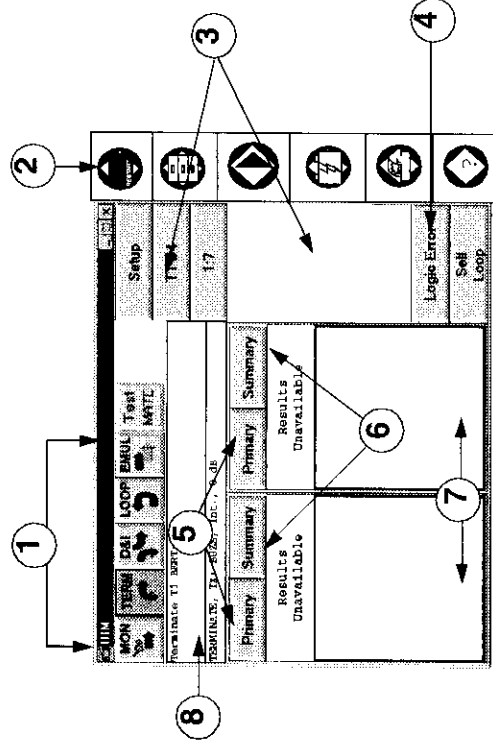
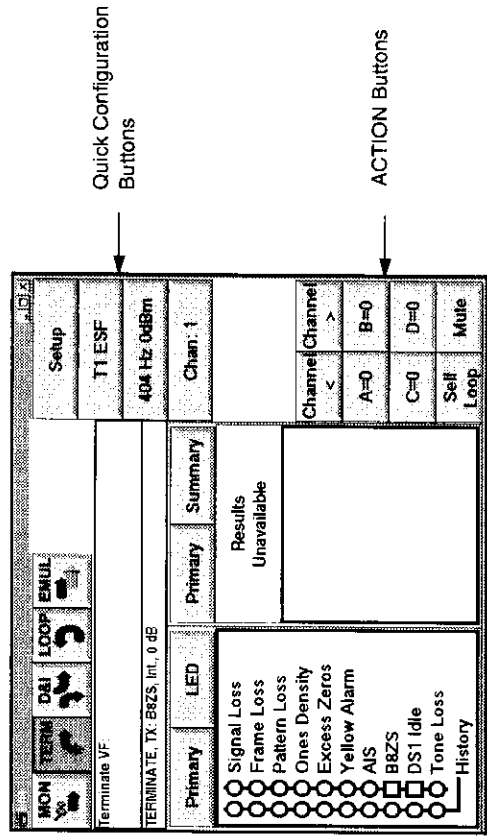

Figure 2-1. Main Screen
Figure 2-3. Sample Configuration/ACTION Button Usage
When you activate the T-BERD 2209, it displays the main screen (see Figure 2-1). The main screen is used to provide setup and configuration data and to display test-specific action buttons.
The Main Screen is divided into eight areas, as shown in Figure 2-1. Each area has a function, as described in the following paragraphs.
3. **Quick Configuration Softkeys** — These multiple configuration buttons appear based upon the type of test initiated. The **Setup** button allows you to change configurations. Figure 2-3 depicts real-test usage. Refer to Section 2.2 for information on how these buttons apply to the Property Sheets.
4. **ACTION Softkeys** — These action buttons are designed to take specific action during a test to initiate and measure the test (see Figure 2-1 and Figure 2-3).
5. **Results GROUP Display** — The first button in this dual-results display depicts a drop-down list of the current test results, and lets you choose the *source* of results. Select Primary or Secondary receivers by choosing **Primary** or **Secondary** (see Figure 2-1 and Figure 2-4).
6. **Results CATEGORY Display** — The second button in this dual-feature display offers a drop-down list allowing you to choose test results in numerous *categories*. Results appear based on the application and test selections (see Figure 2-1 and Figure 2-4).
7. **Dual Test Results Display** — This area (see Figure 2-1) displays two test results windows associated with the current test application. Each window has a button for selecting the Result GROUP, a button for selecting the Result CATEGORY, a Result VALUE display window, and a Result LIST box. Figure 2-5 shows a sample Dual Test Results Display.
8. **Message Display** — This area (see Figure 2-1 and Figure 2-5) displays messages regarding activity associated with the current test application. The message display is comprised of: